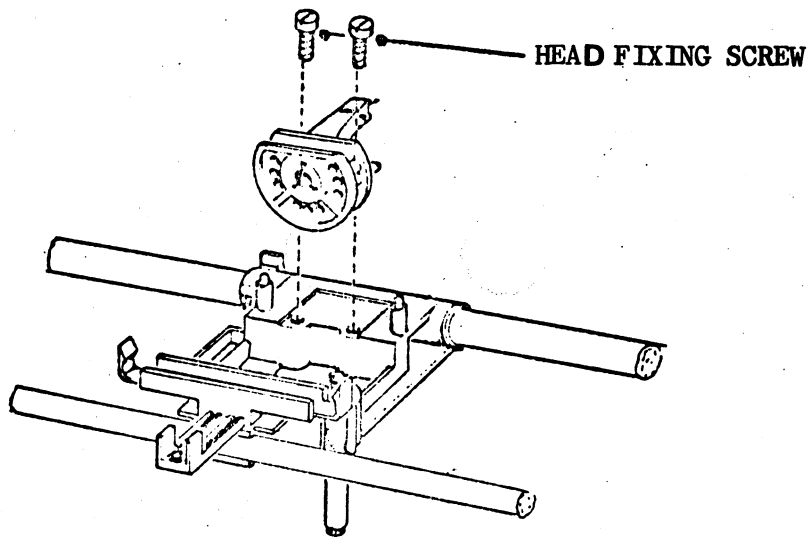

Fig. 7-8
- Remove the two screws fixing the head to the carriage group and then remove the head (fig. 7-8)